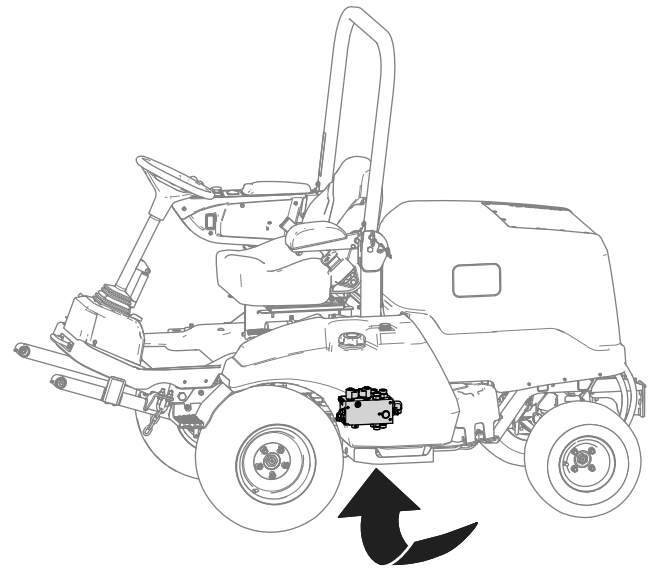

Figure 23
3. Locate the lift manifold from under the machine (Figure 23).